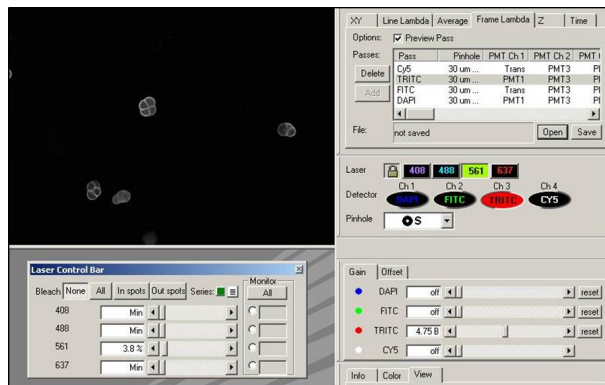

Figure 9: Frame Lambda tab, gain settings, and laser control bar.
- Set laser power and gain for each laser being used (Figure 9).